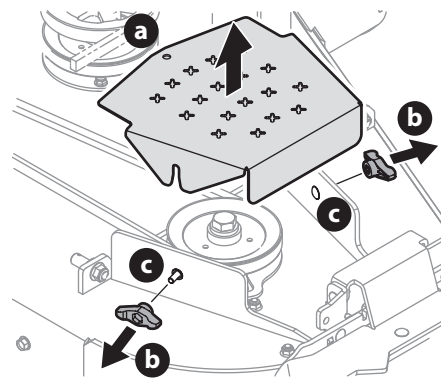

Fig. 61
- To remove the belt covers (a), remove the wing knobs (b) from the carriage screws (c) securing it to the deck (Fig. 61).
- The speed nut should hold the carriage screw (c) and tab bolt in place, if not re-install (Fig. 61).